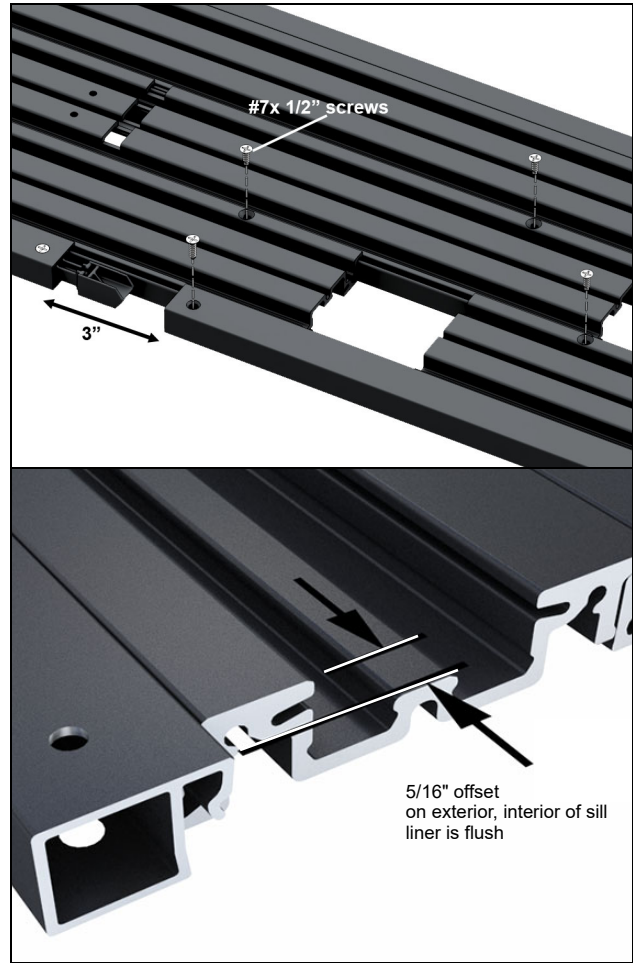

Figure 6
3. Align sill sections at splice by approximately 3" (76) apart. Using rubber mallet, snap sill sections together. Once snapped, slide sections the remaining 3" (76) together. Ensure end of individual sill tracks are flush. When assembled, exterior sill liner will overhang sill track evenly on both ends. See figure 6.